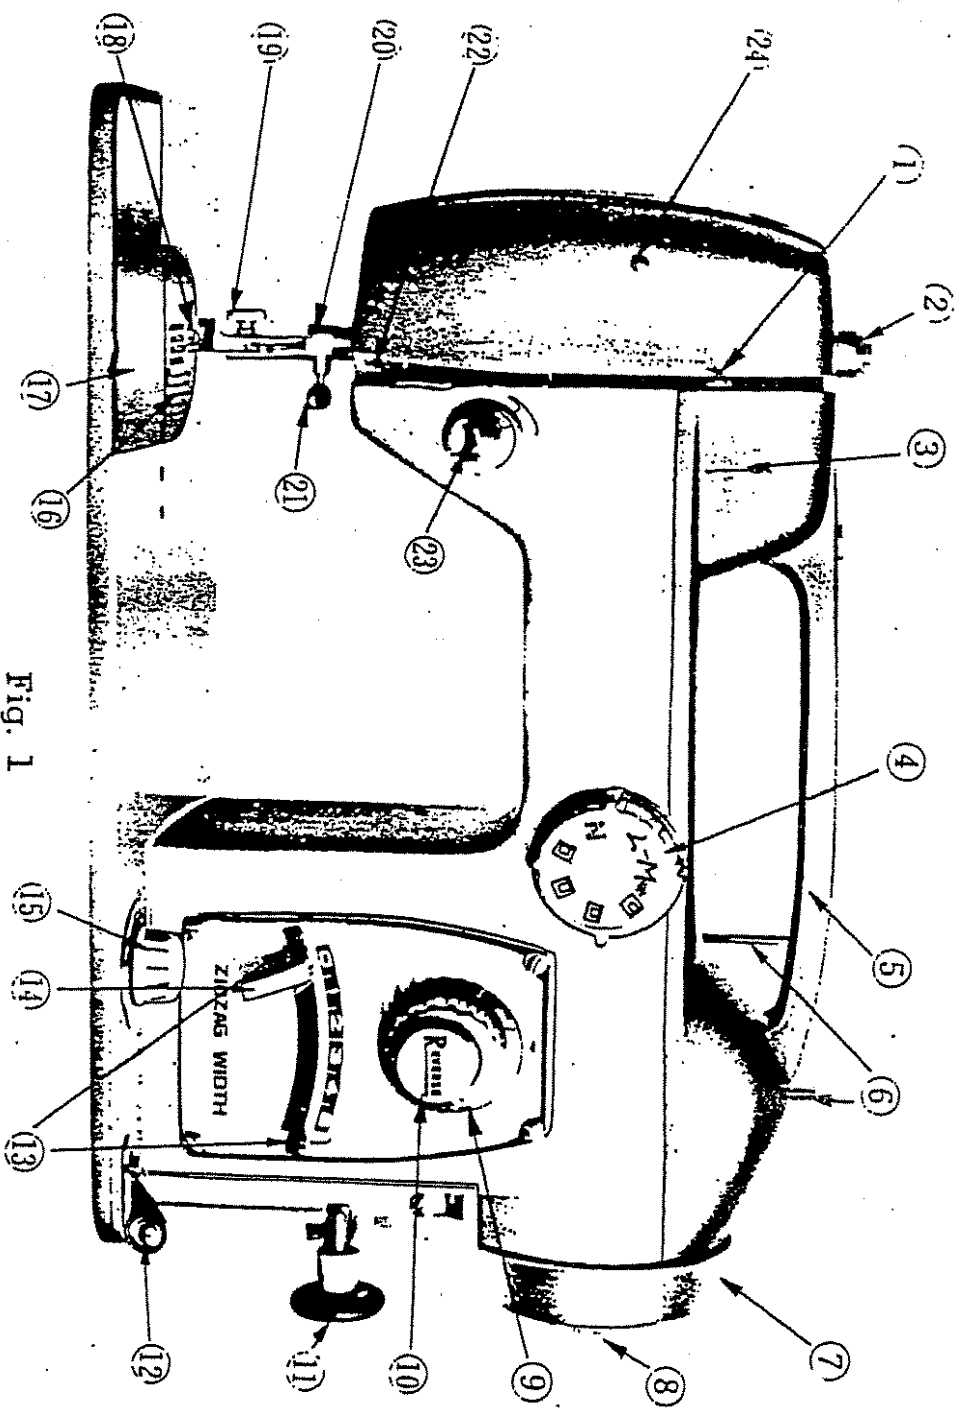
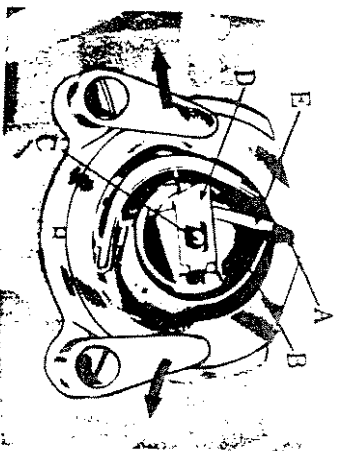
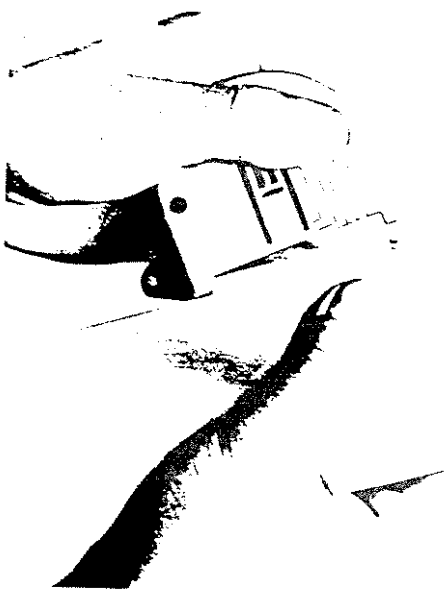
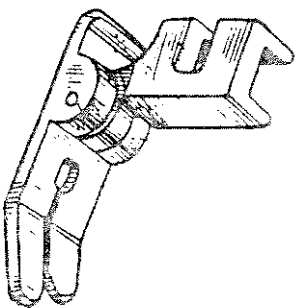

Fig. 1
Fig. 10
Fig. 13
Fig. 14
Open hinged cover plate in front of the needle. (See 17 Fig. 1). Hold the bobbin case latch, (D), Fig. 10, between the thumb and forefinger of the left hand, with at least three inches of thread running from the top of the bobbin case to the right. Insert and center the bobbin case on the stud of the shuttle body, (C). Be sure the bobbin case finger, (E), is opposite shuttle race notch, (A). Press the bobbin case into the shuttle as far as possible until latch catches on the center post of shuttle. THEN release the bobbin case latch, (D). Press bobbin case again after latch has been released to make sure the bobbin case is locked securely in place. Close the cover plate.
Changing the Foot and Plate. To change presser foot (19, Fig. 1) loosen thumb screw and remove zigzag foot. Replace with hinged straight foot and tighten screw securely. Fig. 14
To change needle plate (16, Fig.1) remove screw and lift off with cover plate attached. Hold needle plate with left hand and cover plate with the right. (Fig. 13)